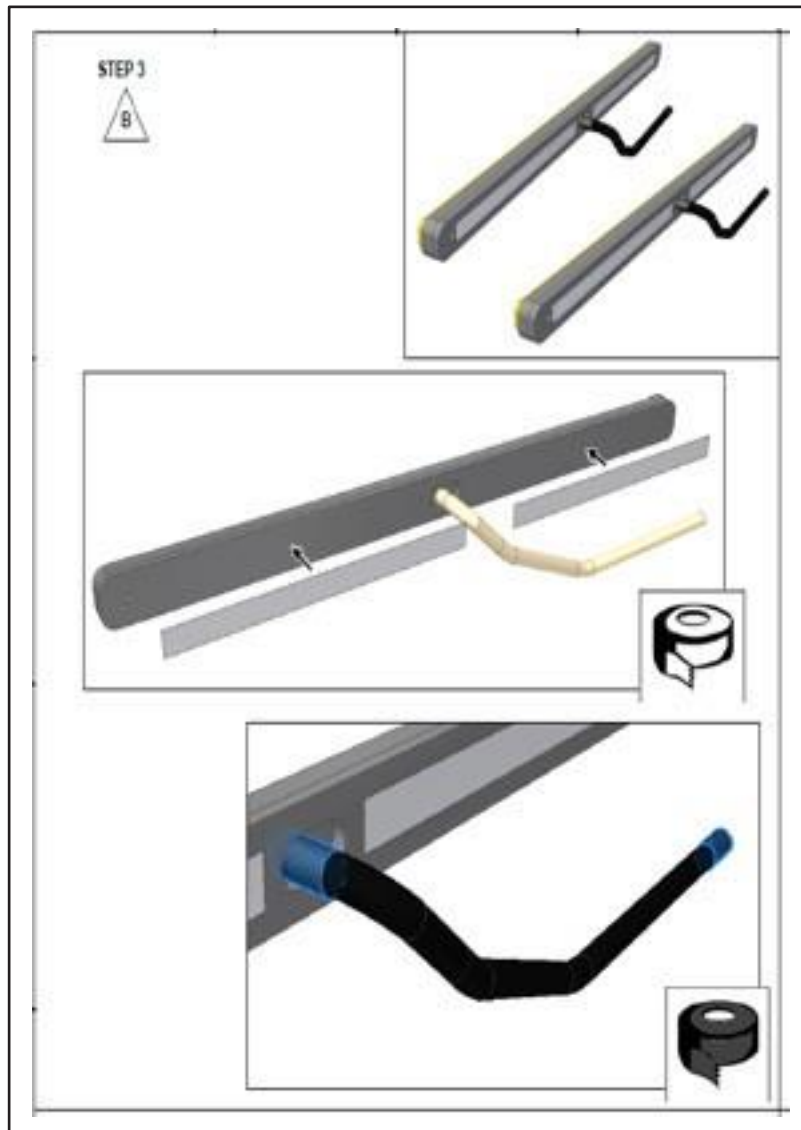

Figure 3 - Removal of Wiring
- 1.6. Remove the wiring from all fastening points between the lamp/vehicle connection to the point where the lamp passes through the vehicle body to the bottom of the lamp (see figure 3).